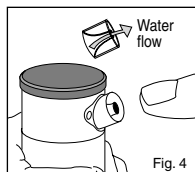

Fig. 4
3. Discard nozzle if removed with pliers. Slip the desired nozzle into the nozzle socket. Note that the socket is angled up 25° (see Fig. 4). Tighten the nozzle-retainer/range-adjustment screw.